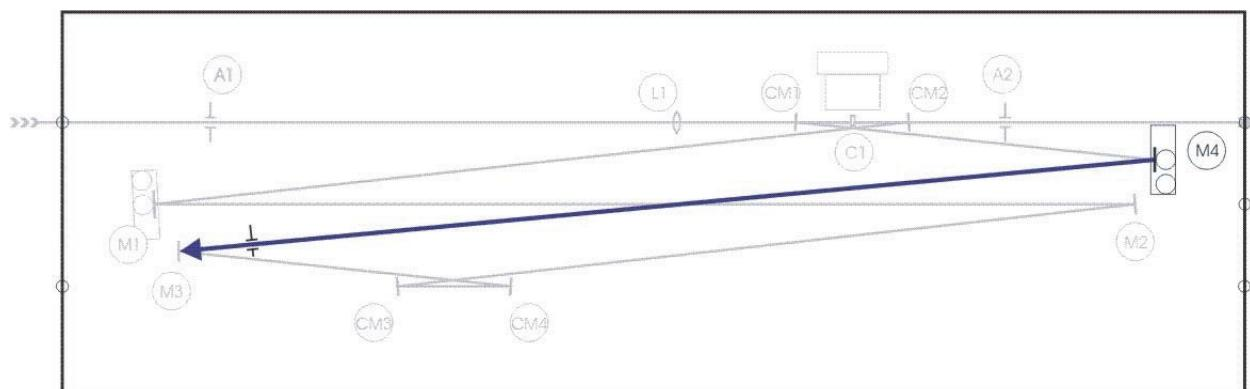

Figure 5.9.: Align M4 to center green pump spot on M3. Use plug aperture position A9.
- Place the plug aperture at position A9. Adjust M4 to center the spot on M3 (Fig. 5.9).